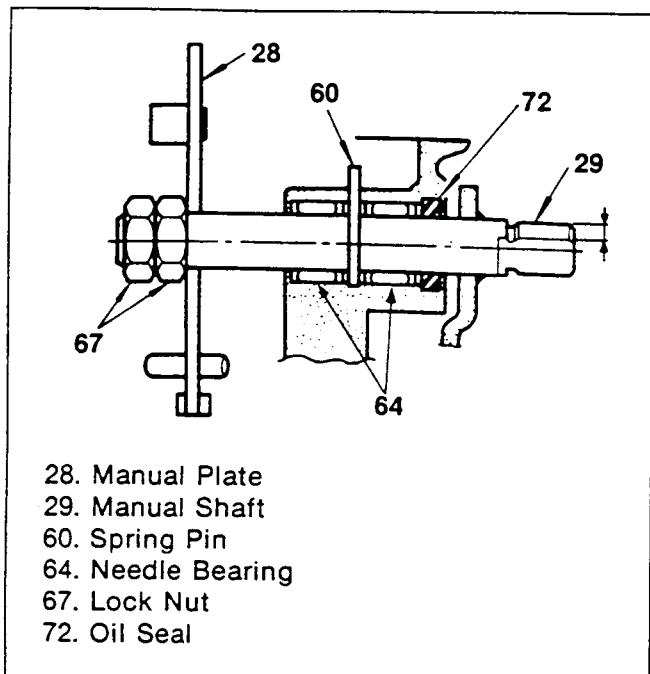

Figure 48. Manual Shaft Removal (1)
## Manual Shaft (Figures 48 and 49)
**Inspect (Figure 48)**